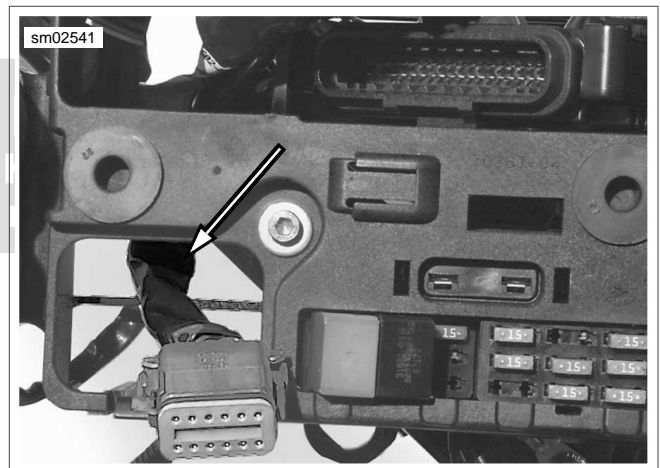

Figure 7-5. TSM/TSSM/HFSM Wiring
5. See Figure 7-5. Route TSM/TSSM/HFSM wiring through rear of electrical caddy as shown.